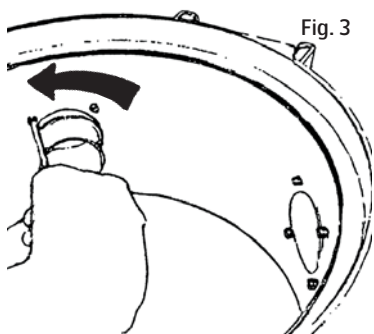

Fig. 3
1. Release the suction pipe socket by unscrewing the four combination Torx screws with a Torx T20 or an ordinary screwdriver, Fig. 3.